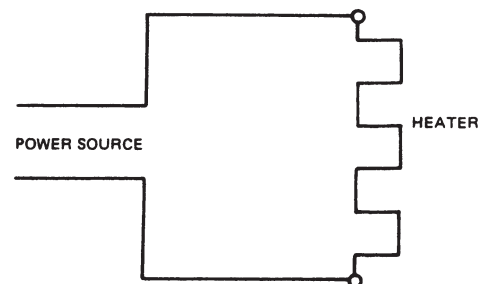

FIGURE 11–11 Strip heater.
8. In Figure 11–11, if the power developed in the heater is 12,000 watts and the supply voltage is 220 volts, what is the current flow through the heater?
9. In Figure 11–11, the power developed in the heater is 8000 watts. The power source is 220 volts. What is the resistance of the heater?
10. The circuit of Figure 11–11 is to supply 18,000 watts of heat. The power source is 220 volts. What is the resistance value of the heater?